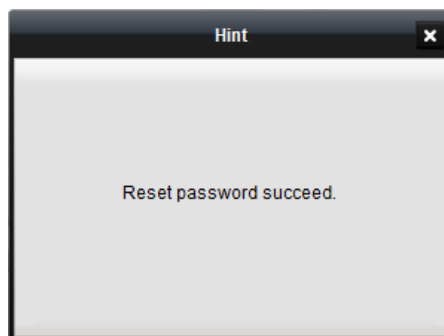

Figure 122 "Reset password succeed" message will appear
- A "Reset password succeed" message will appear (Figure 122).